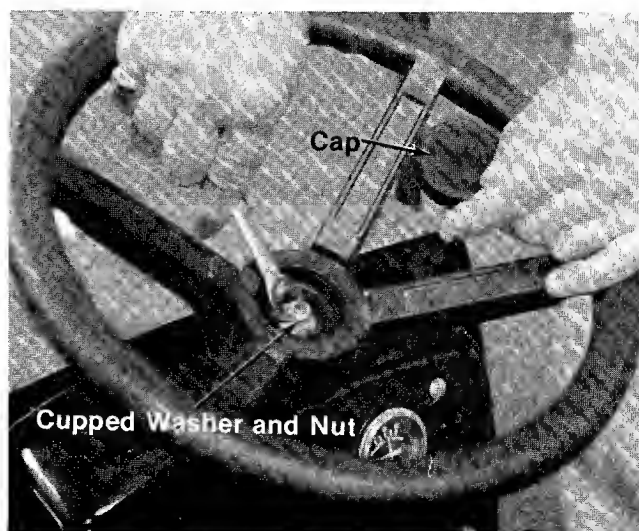

FIGURE 4.
1. Place the steering wheel over the steering column extending through the dash. Line up the flats on the steering column with the flats in the steering wheel. (See figure 4.)